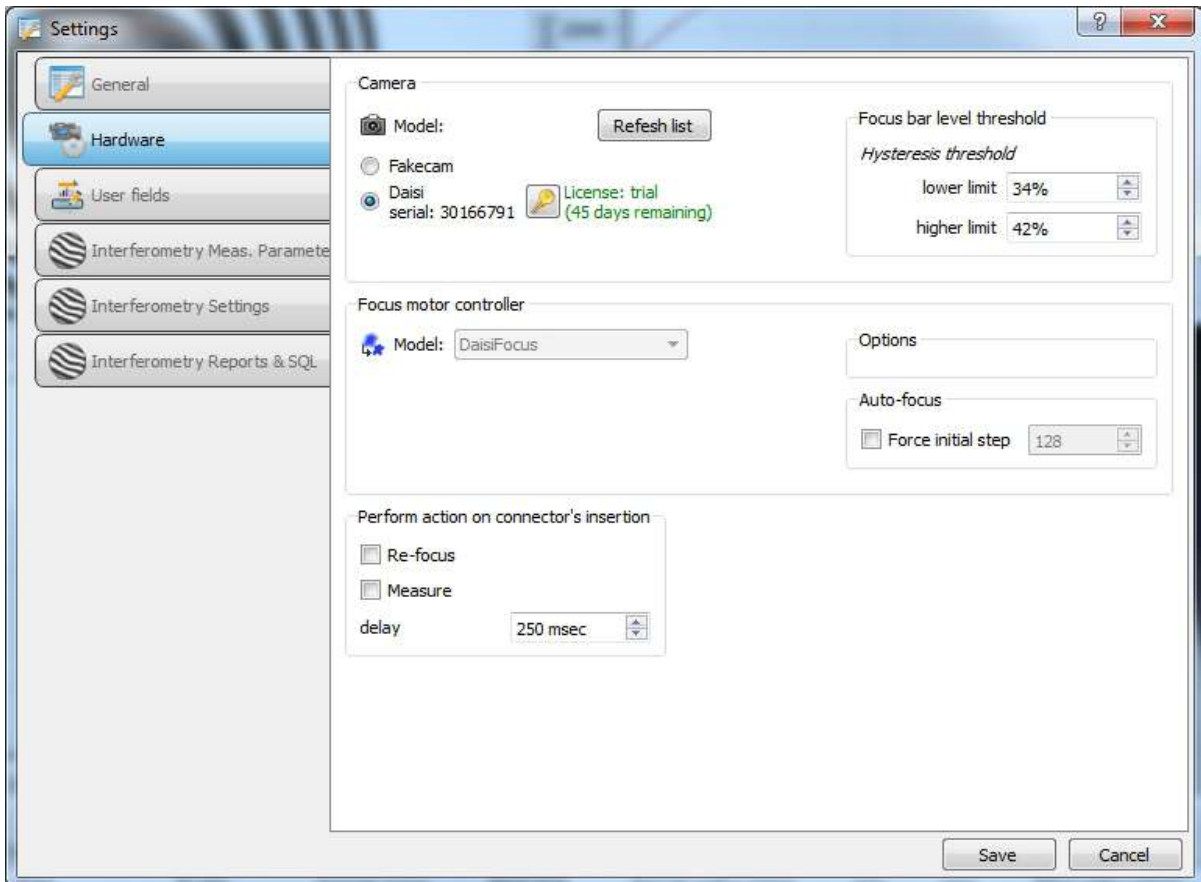

Figure 1 - Settings: hardware tab
- In the Hardware tab, select your camera and make sure a device with a valid license is listed. (*Figure 1 - Settings: hardware tab*)